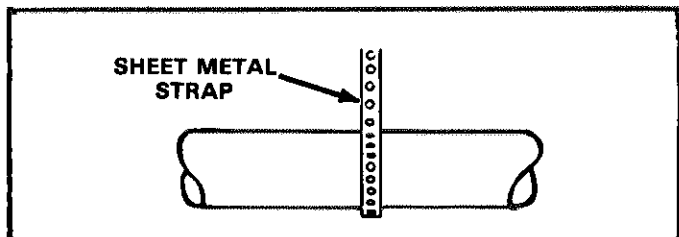

FIGURE 10
- 8 - Horizontal runs of vent piping must be supported every 5 feet using a sheet metal strap as shown in figure 10.